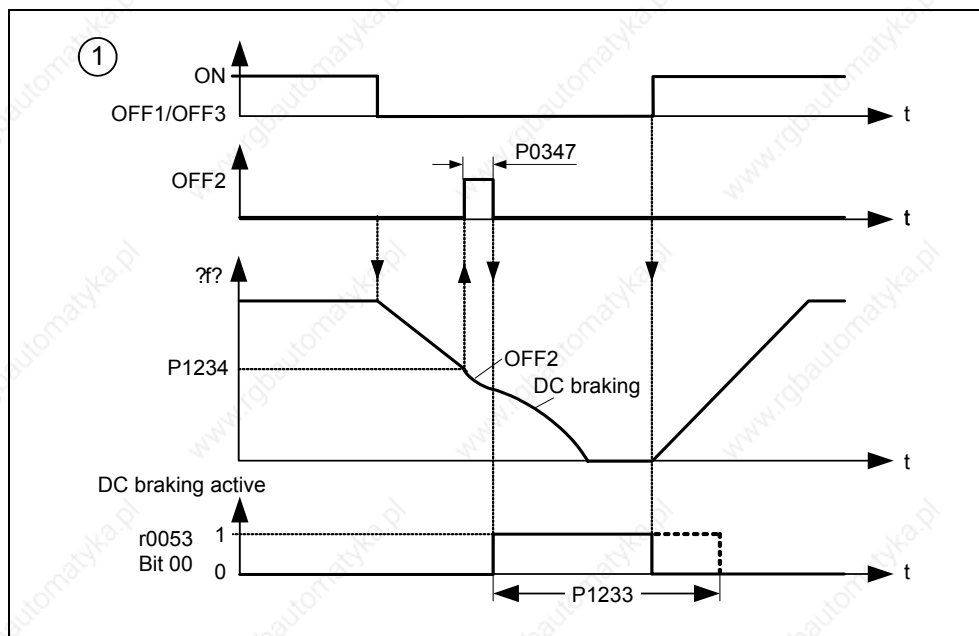

Fig. 3-73 DC braking after OFF1 / OFF3
2. DC braking is activated with the OFF1 or OFF3 command (refer to Fig. 3-73)